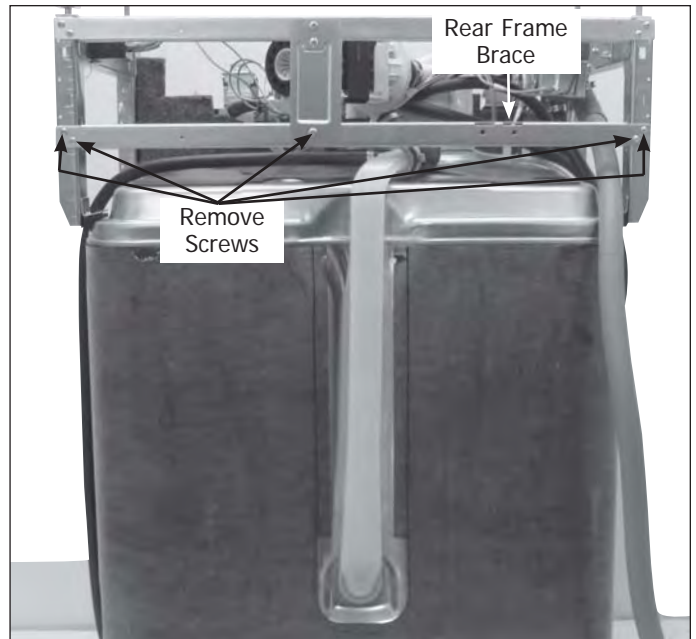

Figure 4-32.
6. Turn dishwasher over and extract screws securing rear upper frame brace to unit frame. Pull frame brace from unit. (See Figure 4-32)